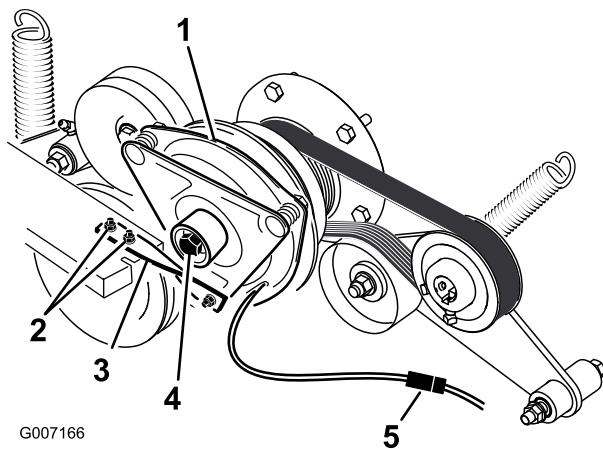

Figure 62
5. Unplug the electric connection for the clutch (Figure 62).
2. Bolts (2) and nuts for the clutch strap
6. Remove the bolts holding the rubber clutch strap to the mower frame (Figure 62).
7. Remove the center bolt holding the clutch to the engine shaft and remove the clutch and key (Figure 62).
14. While holding the crank shaft at the back of the machine, install the center bolt and torque it to 68 N·m (50 ft-lb) (Figure 62).
15. Install the rubber clutch strap to the mower frame with the 2 bolts and nuts previously removed (Figure 62).
17. Plug in the electric connection for the clutch (Figure 62).